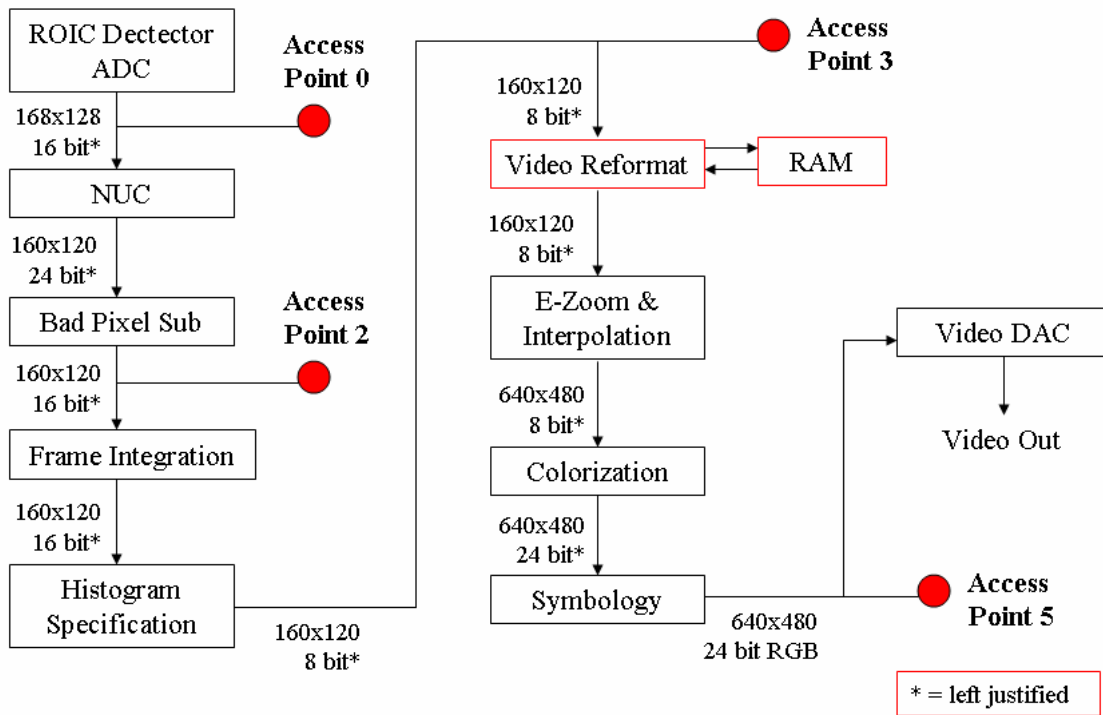
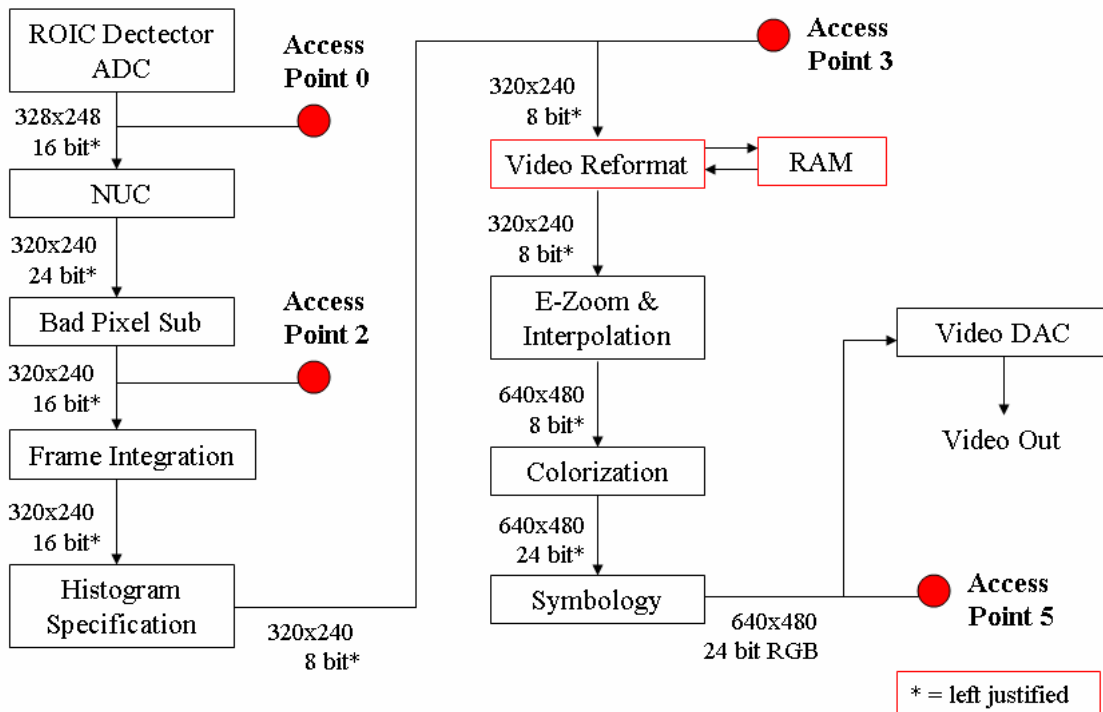

Figure 3 Image Processing Block Diagram (160x120)
Figure 4 Image Processing Block Diagram (320x240)
3. “Input Mode” sets the port to receive digital data only. The data must be in the appropriate format for the signal processing that will follow the insertion point (referring to Figure 3 and Figure 4).
The choice of access point along the video signal processing path is selected by using the “EP Data Select” entry box as follows (referring to Figure 3 and Figure 4):